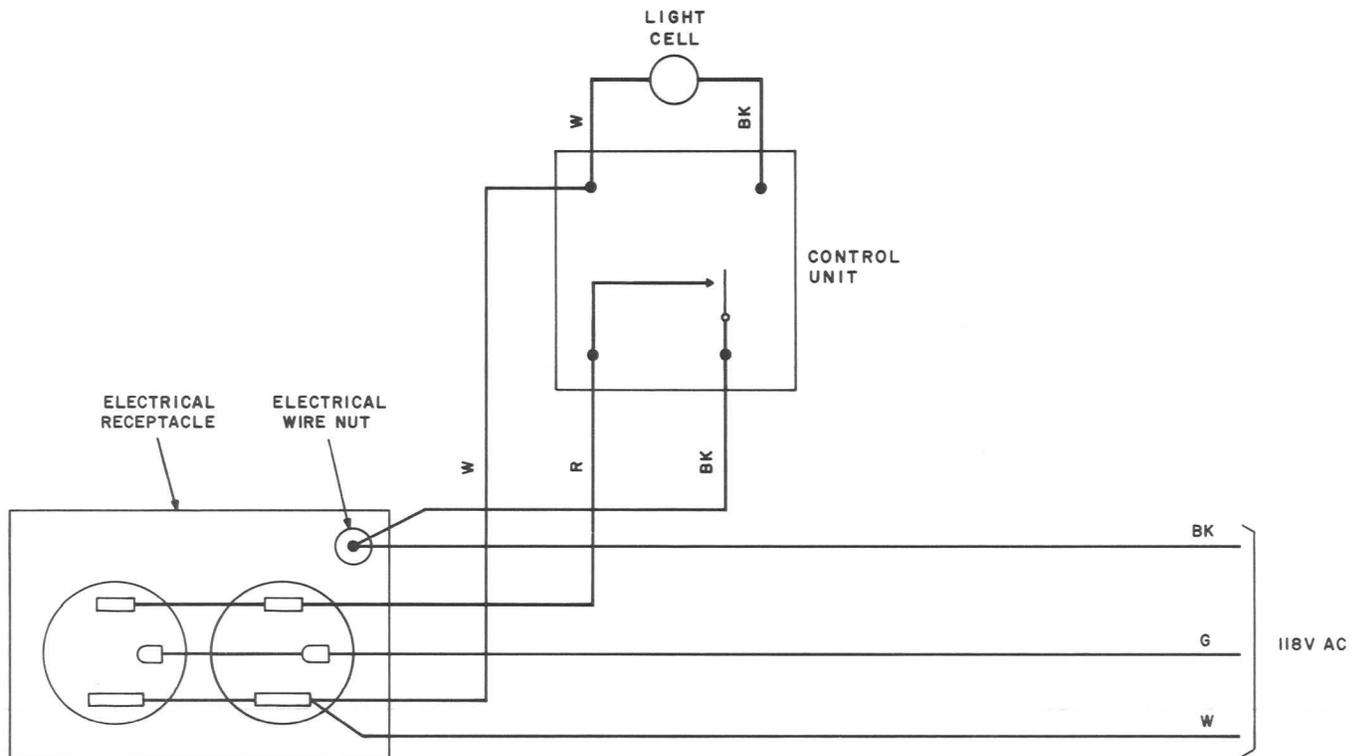

Fig. 19—Wiring Diagram of KS-19261, List 3 Light Control Unit
- (e) Connect control unit wires to electrical receptacle as shown in Fig. 19.
(1) Remove electric wire nut (Fig. 19) from black wires. Connect black wire from AC power source to electrical receptacle on terminal opposite white wire.
(2) If lamp illuminates, replace light control unit.
(b) Connect wires of control unit to electrical receptacle of prime mounting as shown in Fig. 19.